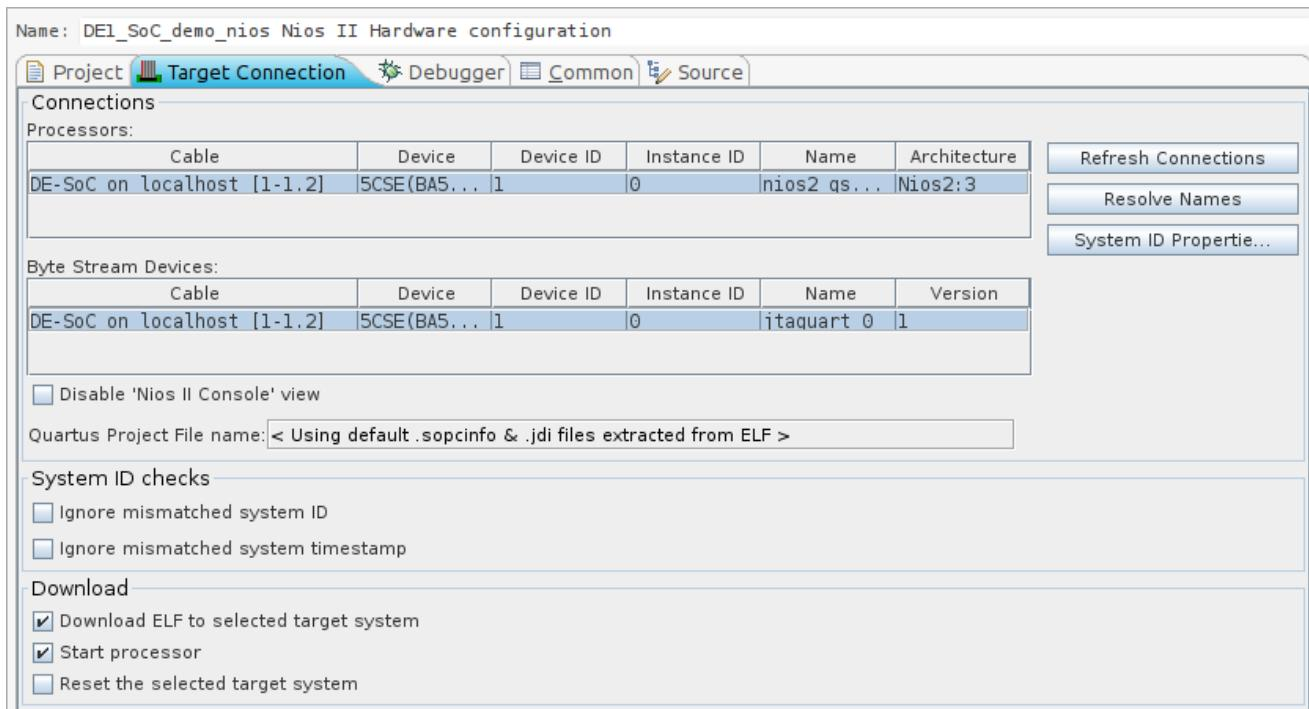

Figure 8-23. Nios II Target Connection Dialog
9. In some cases, it is possible that the program will not immediately run on the Nios II processor, and you will be prompted with a “Target Connection” dialog, as shown in Figure 8-23. If your Nios II CPU doesn’t appear in the list of available processors, then
- Click on the “Refresh Connections” button on the right of Figure 8-23.